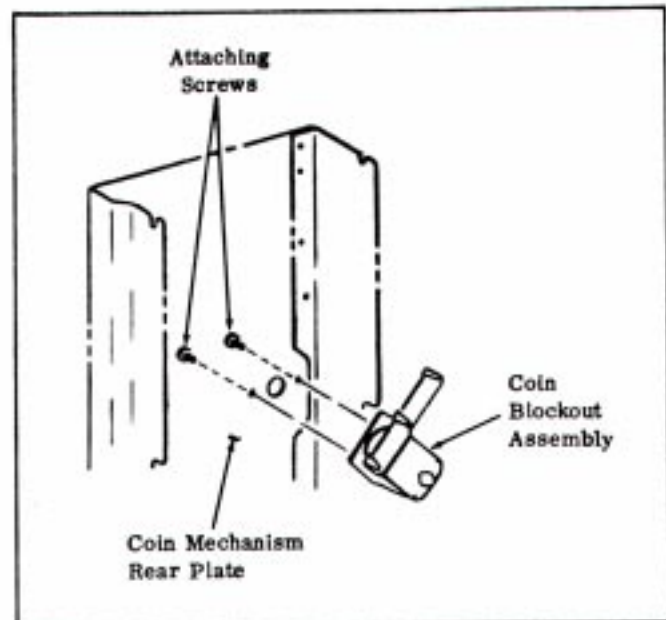

FIGURE 1
4. Remove the two Screws which attach the defective Coin Blockout Assembly to the Coin Mechanism Rear Plate and remove the defective Coin Blockout Assembly. See Figure 1.